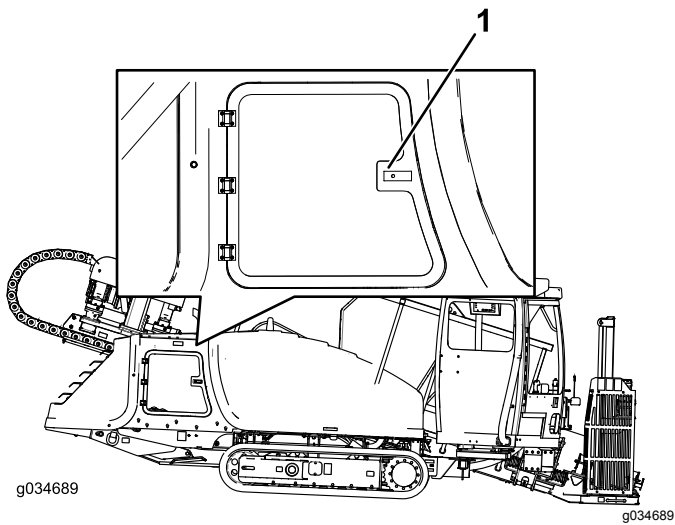

Figure 72
2. Push on the left side of the panel handle, and pull the panel open when the handle is released (Figure 72).